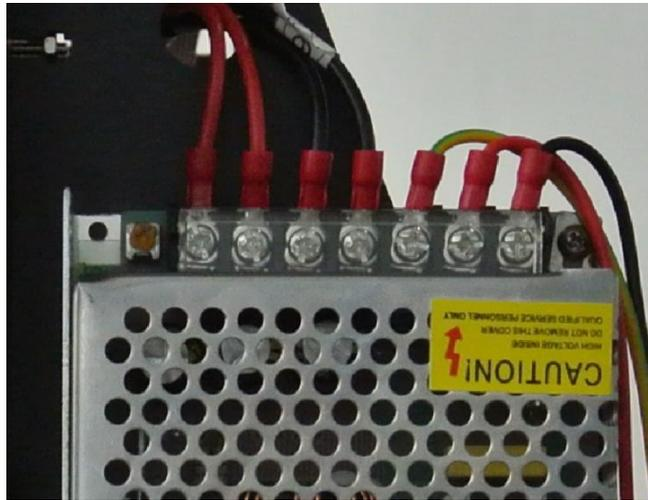

Figure 17
2. Find power cable ⑱ and connect A3 assembly and A2 assembly. One end of the power cable connection is shown in figure 17 and the other end is connected to port 1.